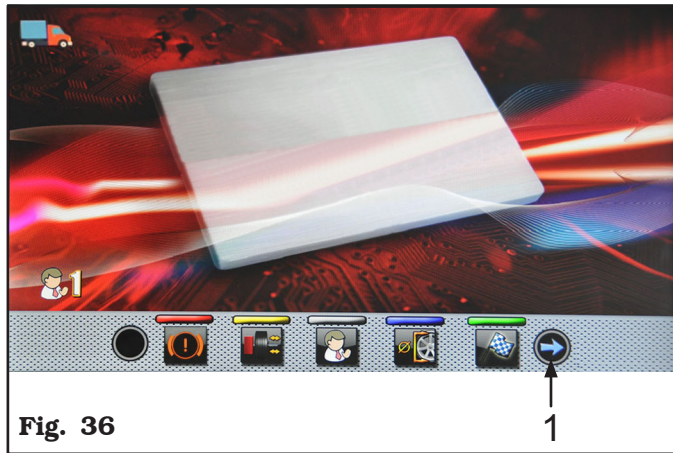
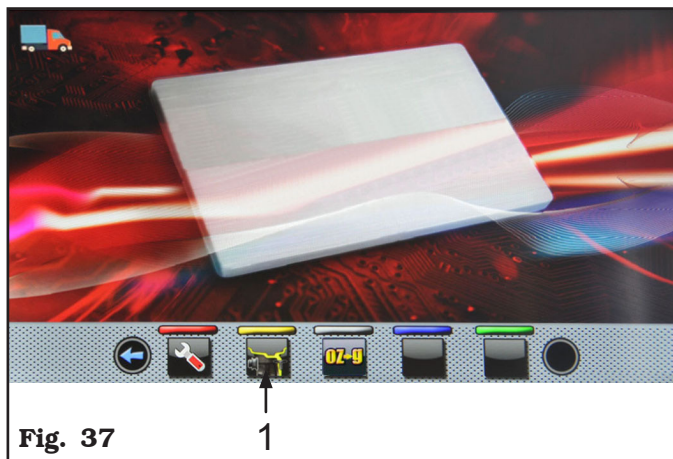

Fig. 36
Fig. 37
- from the "Home" page, press the button  (Fig. 36 re. 1) and then the button  (see Fig. 37 ref. 1).